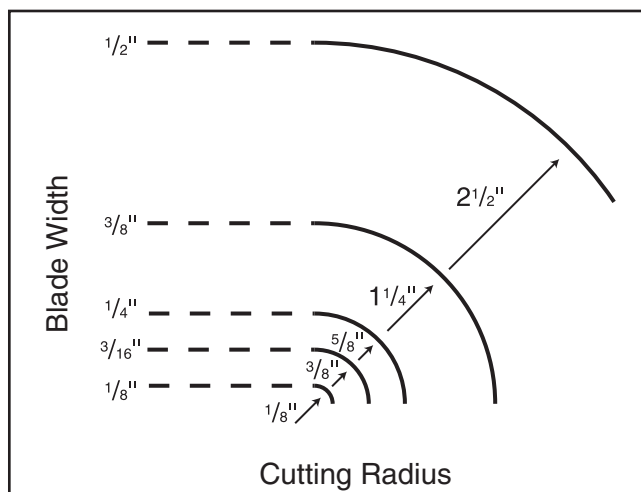

Figure 46. Blade width radii.
- **Curve Cutting:** Use the chart in **Figure 46** to determine the correct blade for curve cutting. Determine the smallest radius curve that will be cut on your workpiece and use the corresponding blade width.